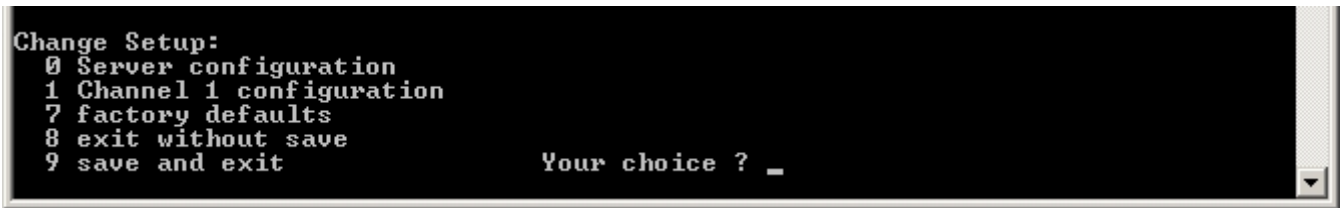

Fig. 13 – Main setting menu
- 4) You have to confirm the option by pushing Enter immediately after loading. The setting menu is now displayed. (Cf. Fig. 13.)